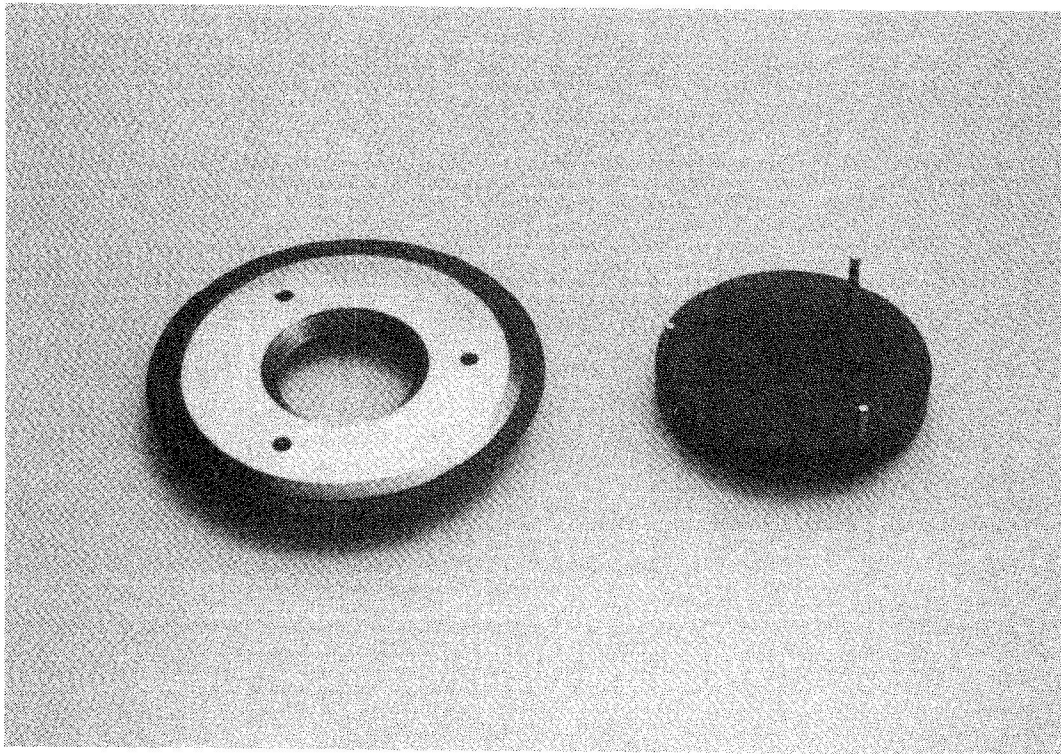

Figure 3-6: Blade in Adapter with Disassembly Tool
- o The three pins on the disassembly tool fit into the three holes in the assembled adapter. Refer to Figure 3-6.